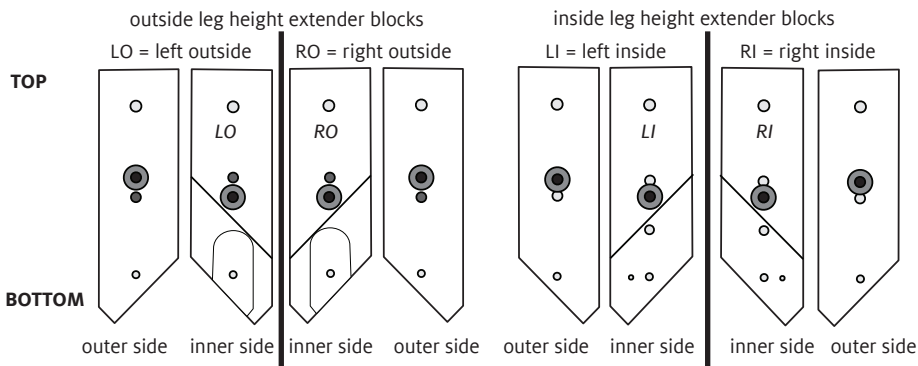

FIGURE 1: HEIGHT EXTENDER BLOCKS
2. Match each height extender with the appropriate leg (Figure 1).